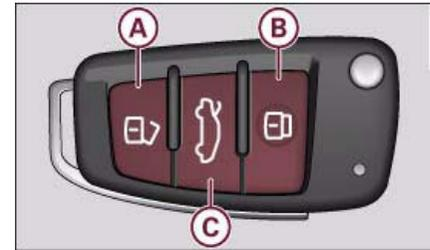

Fig. 35 Remote control key: Control buttons
- Press button **A** once ⇒ fig. 35.